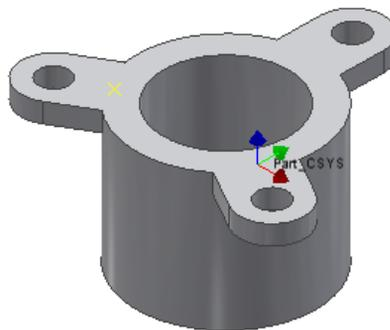

Figure 19-48 Point specified for gate location
3. Select a point on the part, as shown in Figure 19-48 and then choose the **Apply** button from the dialog box.